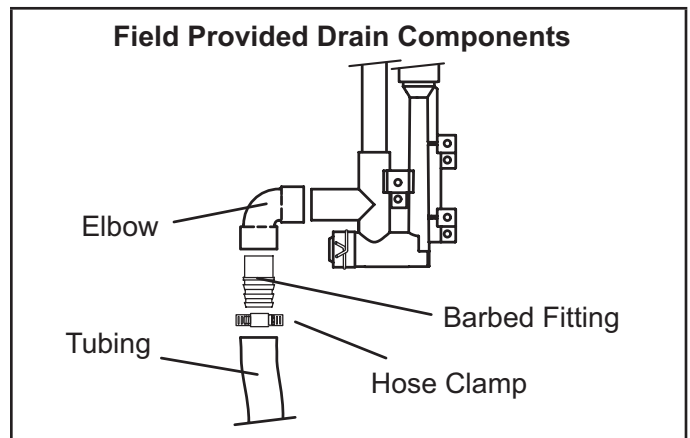

FIGURE 40
- 2 - For furnaces with a 1/2" drain connection use a 3/8 allen wrench and remove plug (FIGURE 40) from the cold end header box at the appropriate location. Install field-provided 1/2 NPT male fitting into cold end header box. For furnaces with a 3/4" drain connection use a large flat head screw driver or a 1/2" drive socket extension and remove plug. Install provided 3/4 NPT street elbow fitting into cold end header box. Use Teflon tape or appropriate pipe dope
NOTE - Appropriately sized tubing and barbed fitting may be used for condensate drain. Attach to the drain on the trap using a hose clamp. See FIGURE 40.